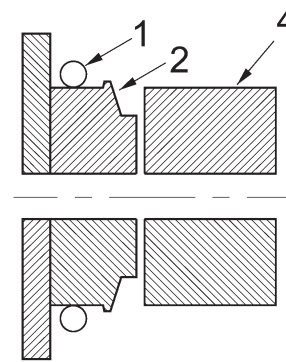

Figure 15
5. Install new O-ring seal 1(1, Fig. 15) into O-ring seal.